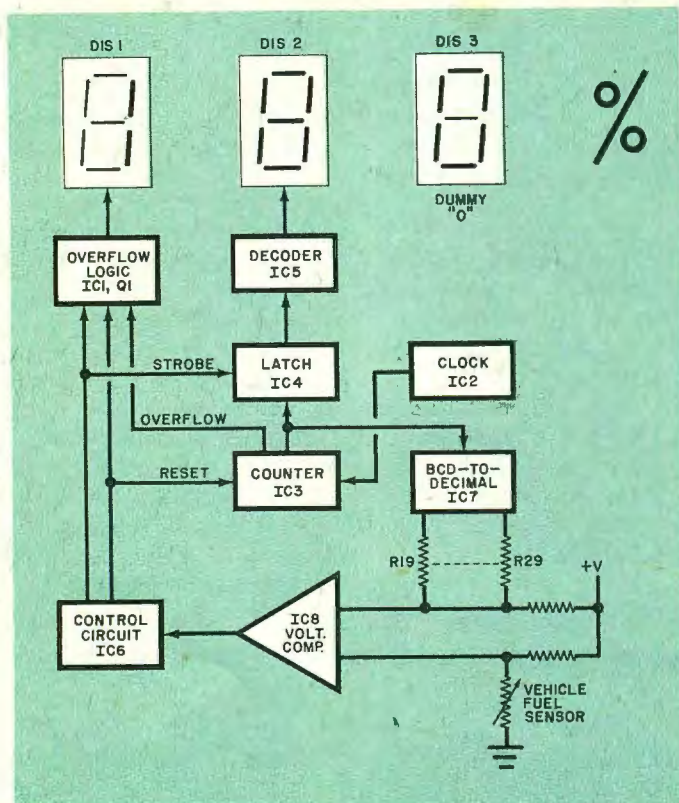

Fig. 1. Block diagram showing how gauge works.
**About the Circuit.** The block diagram of the basic gas gauge circuit is shown in Fig. 1. Note that although the system is rigged to display three digits (to represent from empty, or 0, to full, or 100%), the units digit is a dummy seven-segment display that is always powered to show a 0; it is not driven by the circuit's logic as are the 10's and 100's digits. Since only 11 increments are actually displayed by the system, only 1½ di-